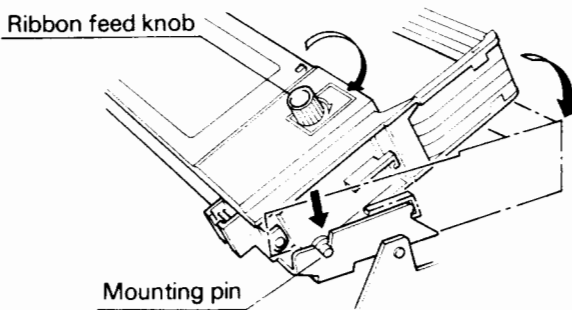

Figure 2-2 Ribbon cassette (2 of 2)
- Rotate the ribbon feed knob in a clockwise direction to tighten the ribbon (Figure 2-2).
8. Insert the ribbon cassette's left and right mounting pins into the guide notches of the side frame. Push the cassette forward, while pivoting it on the mounting pins, then snap it into place (Figure 2-2).